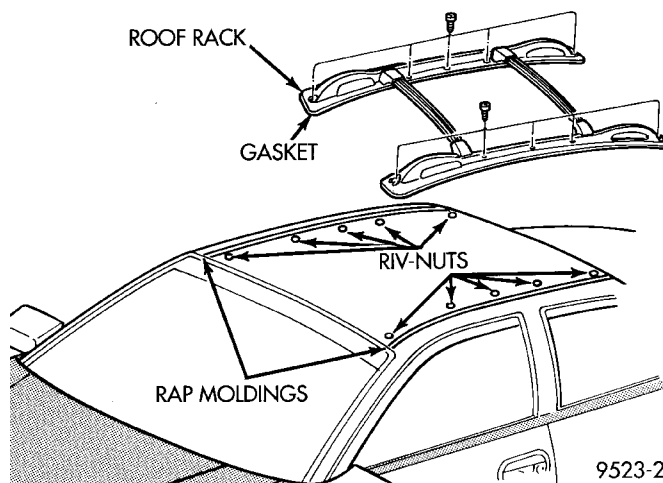

Fig. 82 Roof Rack
- (1) Remove screws holding roof rack side rails to the roof panel (Fig. 82).
- (2) Separate roof rack from vehicle.